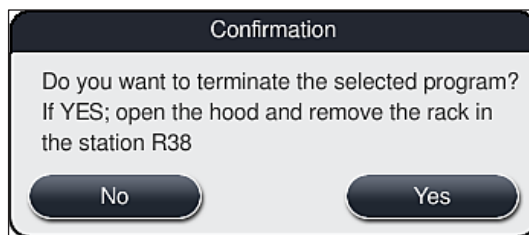

Fig. 91
5. In the following information message (→ "Fig. 91"), confirm the program termination with the **Yes** button or return to the process status display with **No**.
The information in the message (→ "Fig. 91") absolutely must be adhered to.